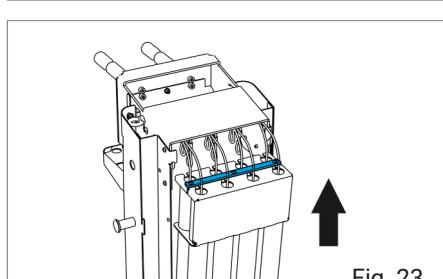
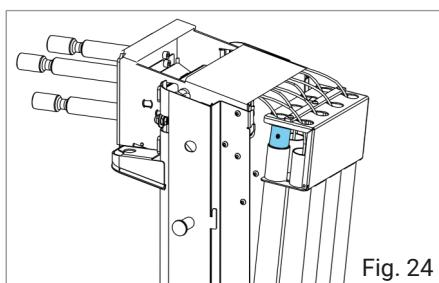

Fig. 23
Fig. 24
8 Take the new tool and thread the steel cable inside the tool compartment (7) from under the tool cover (Fig. 23). Guide the steel cable over the two guide tubes. Make absolutely sure that you take exactly the path as shown in Fig. 23 and keep to the specified position (Fig. 24). For easier handling, you can now hook the steel cable into the tool retraction on the front side.